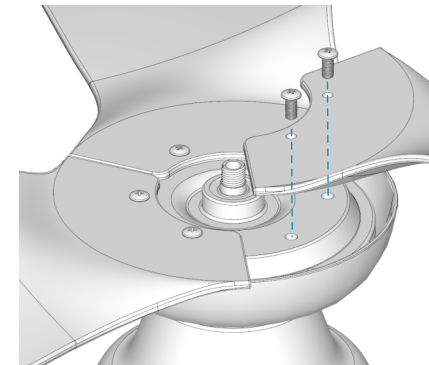

Fig. 2.1
2.1 Carefully place the motor hub upside down. Locate the 6 blade attachment screws included in the hardware pack. Use these screws to firmly attach each blade to the motor hub, as demonstrated in Fig. 2.1.